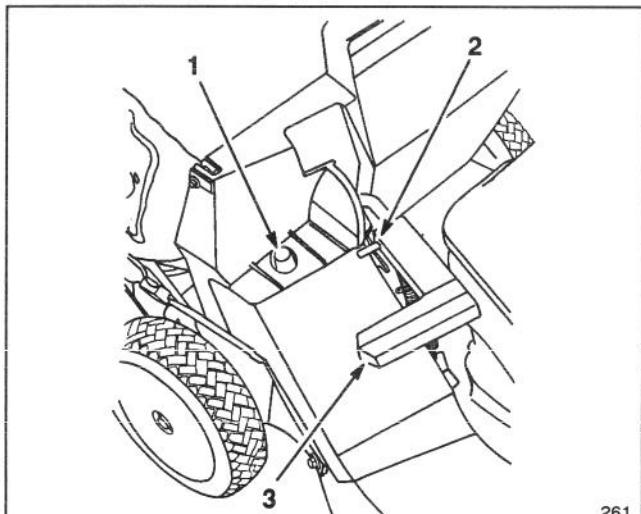

Figure 12
2. Ensure discharge door handle is fully forward and pin is engaged in catch (Fig. 12).
3. **INSTALLING BAG** — Slide hole in bag frame onto retaining post on housing (Fig. 12) and set rear of bag frame onto lower handle.
5. **EMPTYING BAG** – Stop engine and wait for all parts to stop. Raise discharge door handle and move it forward to engage the locking pin with catch (Fig. 12). Grasp handle at front and rear of bag and lift bag off mower. Gradually tip bag forward to empty clippings.